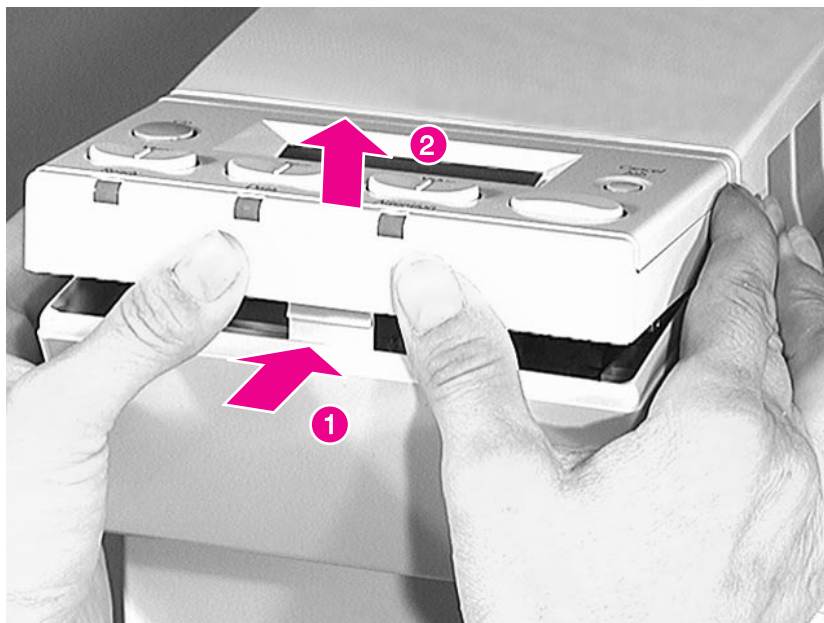
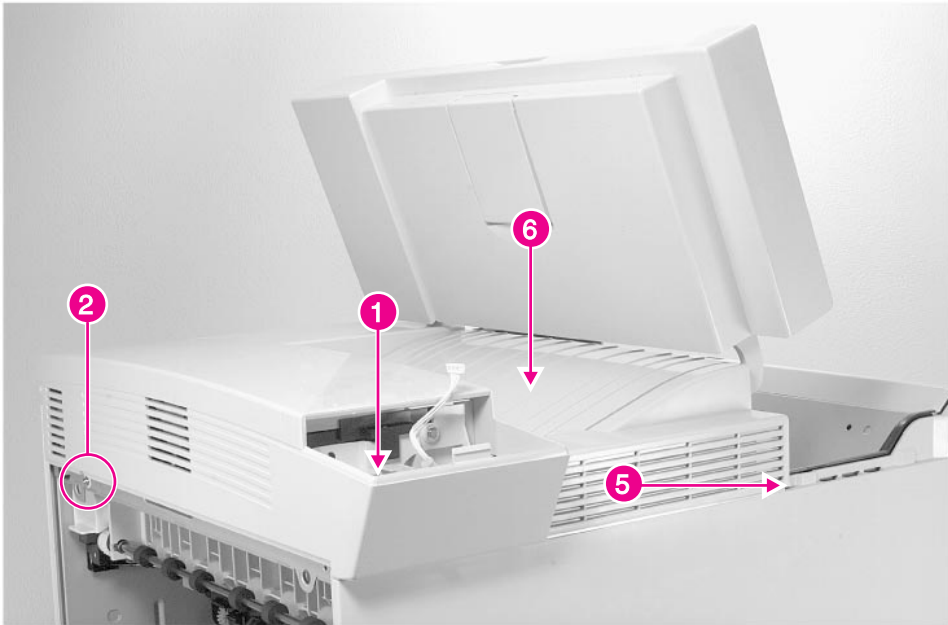

Figure 6-3 Control Panel (1 of 2)
Figure 6-10 Top Cover (1 of 2)
- 1 While pushing in on the center area (figure 6-3, callout), lift up on the forward edge of the control panel to release the plastic retaining tab.
- 1 Remove the Control Panel (see figure 6-3 on page 165), then remove 1 screw (figure 6-10, callout 1).
- 2 Open the Diverter Assembly access door, and remove 1 screw (figure 6-10, callout 2).
- 4 Lift (and hold) the top cover door up, and carefully pull out on the cover to release the retaining tab (figure 6-10, callout 5).
- 5 Hold the Face-down Bin (figure 6-10, callout 6) down while carefully and slowly lifting the top cover straight up until it clears the Face-down Bin Full sensor flag and the Delivery Unit.
- 1 Hold the top cover door up and the Face-down Bin (figure 6-10, callout 6) down while lowering the cover into position.
- Top Cover (see figure 6-10 on page 173)
- 2 Remove the top cover (see figure 6-10 on page 173).